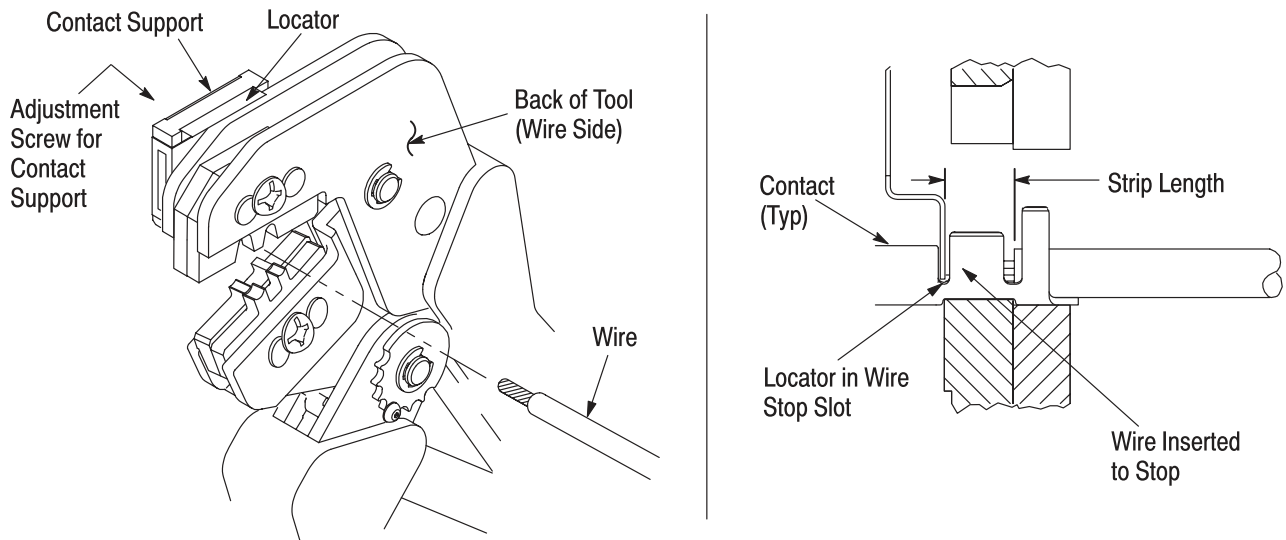

Figure 3
**4. CONTACT SUPPORT ADJUSTMENT** (Figure 3)
Refer to the table in Figure 1 and select wire of the specified size and insulation diameter. Strip the wire to the length indicated in Figure 1, taking care not to nick or cut wire strands. Select an applicable contact and identify the appropriate crimp section according to the wire size markings on the tool. Refer to Figure 3 and proceed as follows:
3. Position the contact so that the mating end of the contact is on the locator side of the tool, and so that the open “U” of the wire and insulation barrels face the top of the tool. Place the contact up into the nest so that the movable locator drops into the slot in the contact. Refer to Figure 3. Butt the front end of the wire barrel against the movable locator.
5. Insert stripped wire into contact insulation and wire barrels until it is butted against the wire stop, as shown in Figure 3.
**NOTE** *The crimped contact may stick in the crimping area, but the contact can be easily removed by pushing downward on the top of the locator (see Figure 3).*